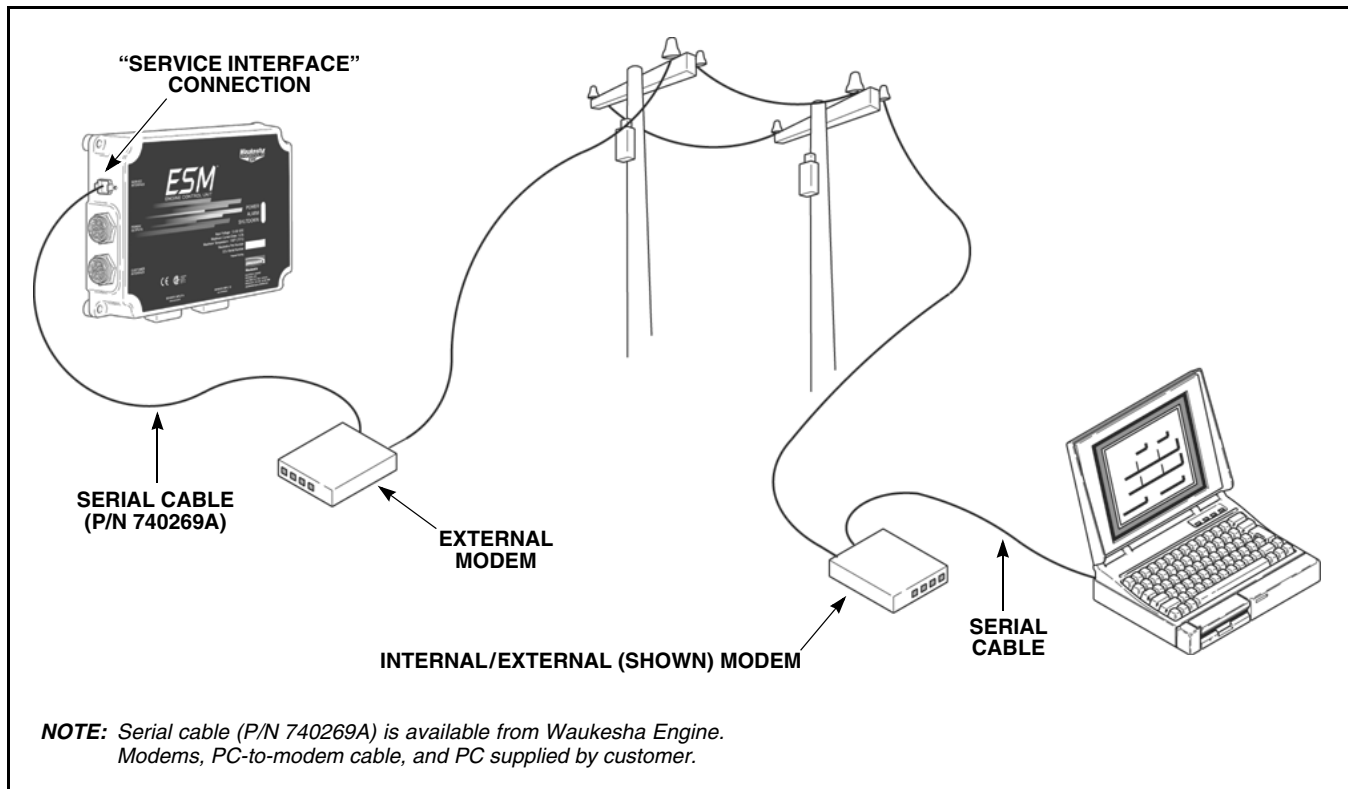

Figure 3.10-7 Modem Connections from ECU to PC
2. Connect the 25-pin end of the RS-232 serial cable to the external modem (see Figure 3.10-7). Connect to the “dedicated” modem you set up for use with the ECU following the steps in the section “Setting Up Modem to ECU for Proper Connection”.
4. Connect PC to modem (see Figure 3.10-7 for sample setup).